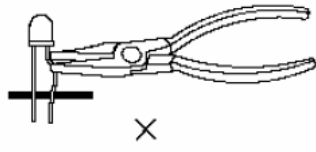

Fig. 7
- During lead forming, use foils or jigs to hold the leads securely so that the bending force will not be transmitted to the LED lens and its internal structures. Do not perform lead forming once the component has been mounted onto the PCB(Fig. 7)